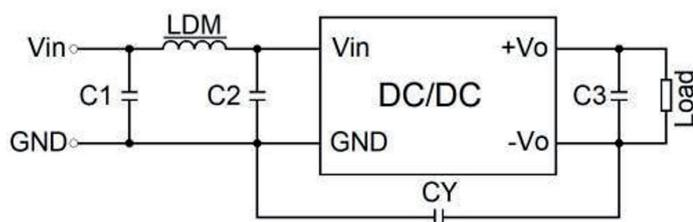

Figure 4
2. EMC typical recommended circuit (see figure 4)